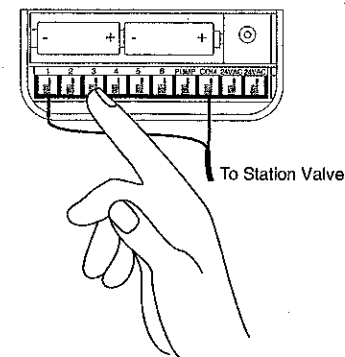

Figure 20: Connecting Valve Wires
- ◆ Connect the common wire to the terminal labeled “COM” [See Figure 20].